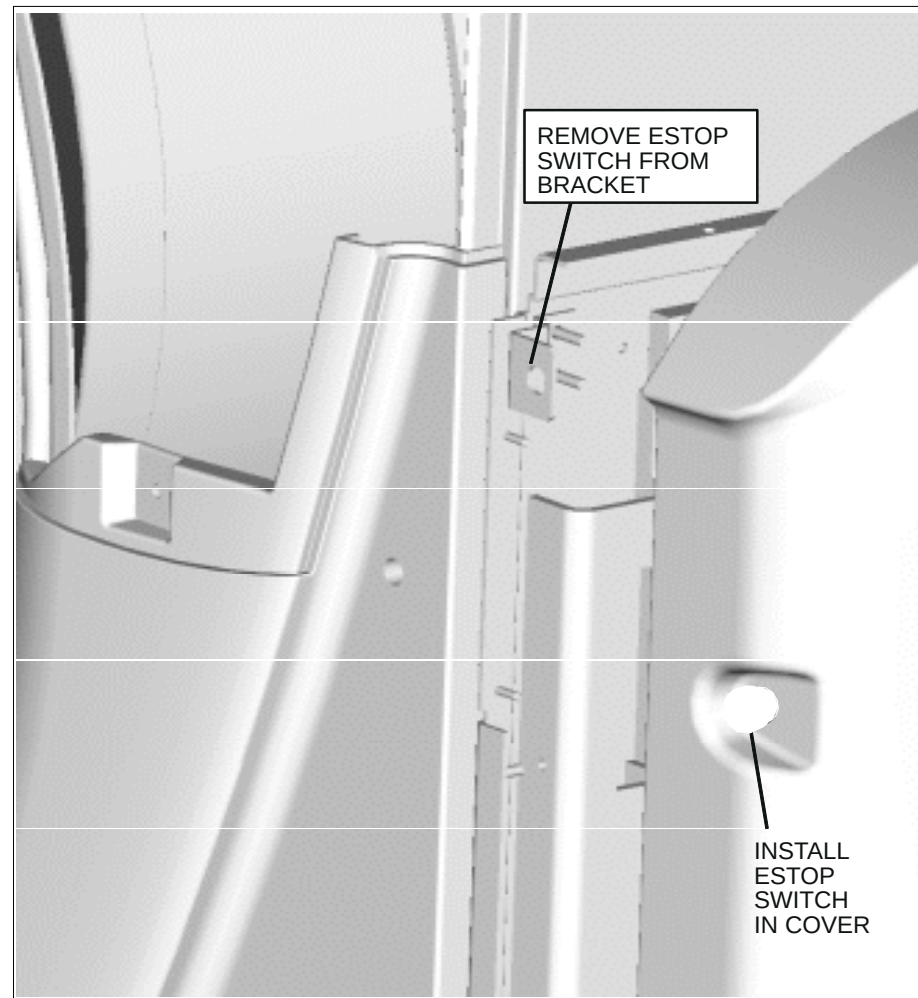

FIGURE 7 ESTOP SWITCH LOCATION
4. Install the E–Stop Switch in the Lower Right Side Column. Refer to Figure 7.